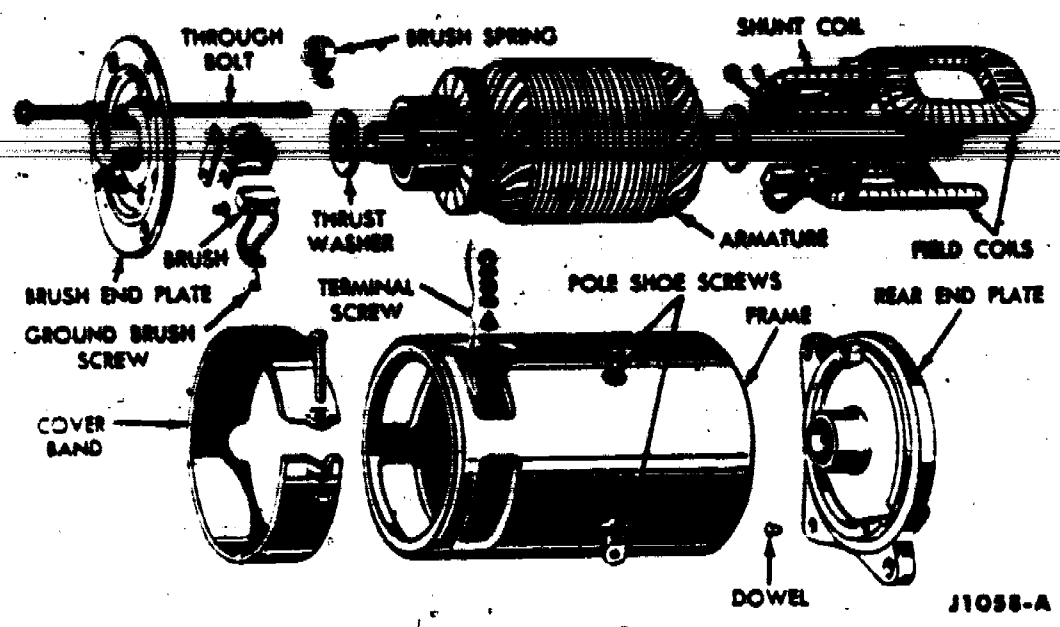

Figure 16. Disassembled Starter Motor.
2. Disassemble the cranking motor, figure 16.
- c. Unscrew the thru bolts, figure 16, and remove the commutator end frame and field frame assembly.
1. Reassemble in the reverse procedure of that used in the disassembly, figure 16. Make sure that all leads are correctly attached and that brushes are installed in holders and making contact with the commutator of the armature.